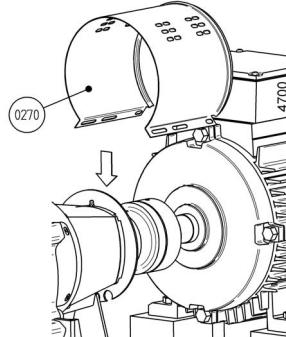

figure 17: Fitting jacket at motor side.
- 2 Remove both jackets (0270). See figure 17.